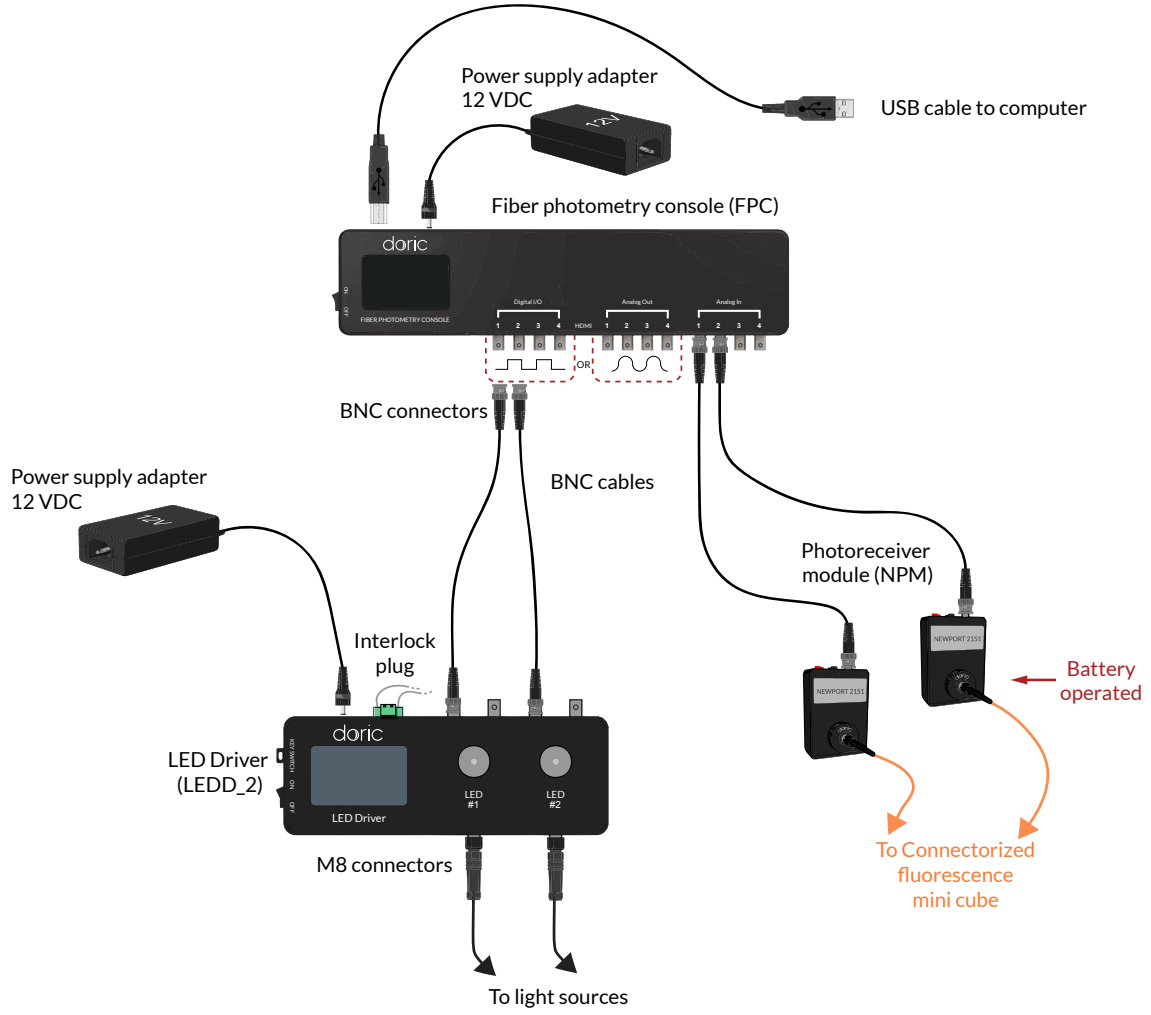

Figure 2.1: Connections to the Fiber Photometry Console
3. **Connect outputs.** Digital outputs can send TTL pulses (0 - 4.75 V square pulses) while analog outputs can send a sinusoidal signal. Connect devices to Digital I/O or Analog Out of the *Fiber Photometry Console* with a BNC cable (Fig. 2.1).